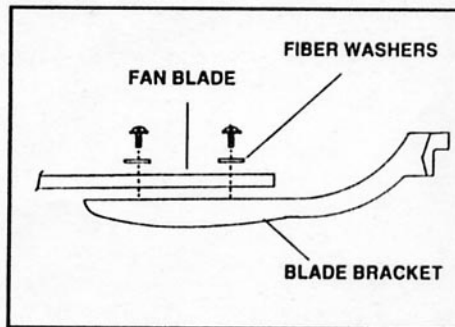

FIG. 14
**Step 1.** Attach the fan blade to the blade bracket using the screws provided. Tighten screws securely. Repeat for remaining blades. (Fig. 14)